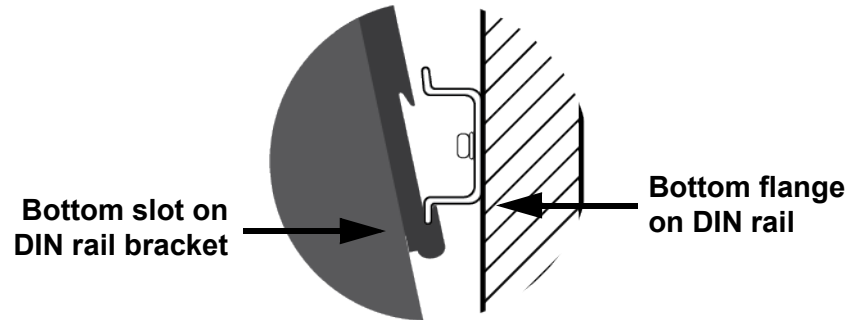

Figure 23. Installing the Switch on a DIN Rail - 1
2. Hook the bottom flange on the DIN rail into the bottom slot on the DIN rail bracket on the switch. Refer to Figure 23.